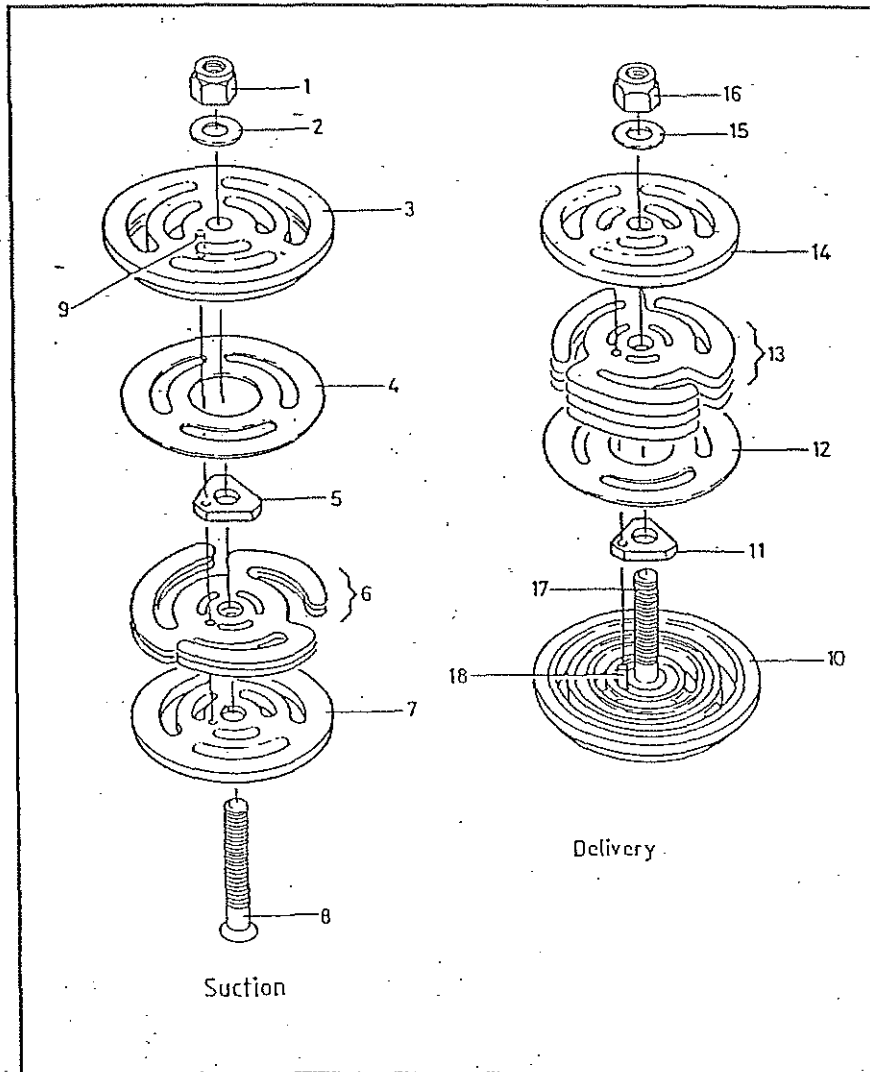

FIGURE 13-9 SECOND STAGE VALVES
13.3.3.6 SECOND STAGE SUCTION VALVE OVERHAUL (FIGURE 13-9)
Place valve seat (3) with peg (10) uppermost. Fit plate (4) and spacer (5) to the seat, engaging the hole in spacer (5) with locating pin (9). Arrange springs (6) as shown in Figure 13-9 and place on plate (4) with the angled arms pointing downward thus holding the spring centers clear of spacer 5, and aligning locating peg with the small hole in the springs. Carefully fit guard (7) engaging the locating pin with the small hole in the guard.
SECOND STAGE DELIVERY VALVE OVERHAUL (FIGURE 13-9)
Fit spacer (11) to seat (10) engaging locating peg (18) with the small hole in the spacer. Place delivery plate (12) in position on the seat. Arrange springs (13) as shown in Figure 13-9, aligning the small hole in each spring with locating peg (18). Carefully fit guard (14) engaging the small hole in the guard with the locating peg. Holding the guard in position, fit washer (15) and nut (16). Tighten nut. Torque value shown in Table 13-3.